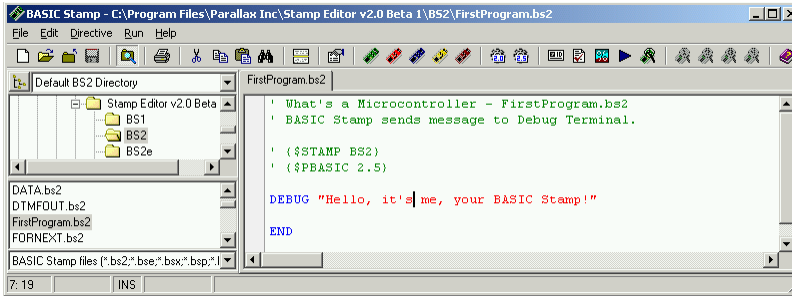

Figure 1-36
- √ Type in the remaining 4 lines of the program exactly as shown in Figure 1-36.